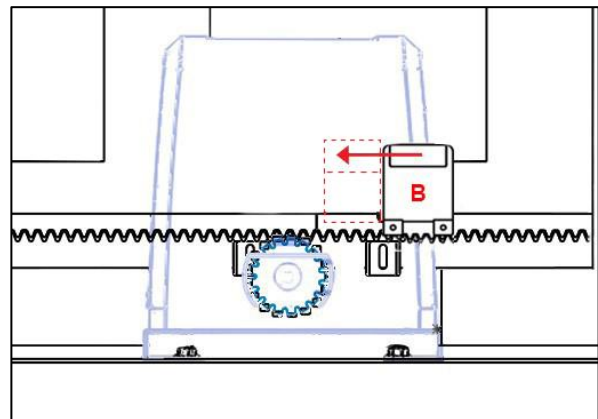

Fig 19
These limit travel stops activate when the magnets travel past a magnetic limit switch sensor under the motor cover (refer to Fig 19 & 20). See page 32 for an image of the magnetic limit switch sensor.
- Position Magnetic Limit Travel Stop B (**LARGER**) central to the magnetic limit switch sensor on the motor (as per fig 19).
- The gate will stop when the magnetic limit travel stop reaches the magnetic limit switch sensor during closing (refer to figs 19 and 20).
- The gate will stop when the magnetic limit travel stop reaches the magnetic limit switch sensor during opening (refer to figs 19 and 20).